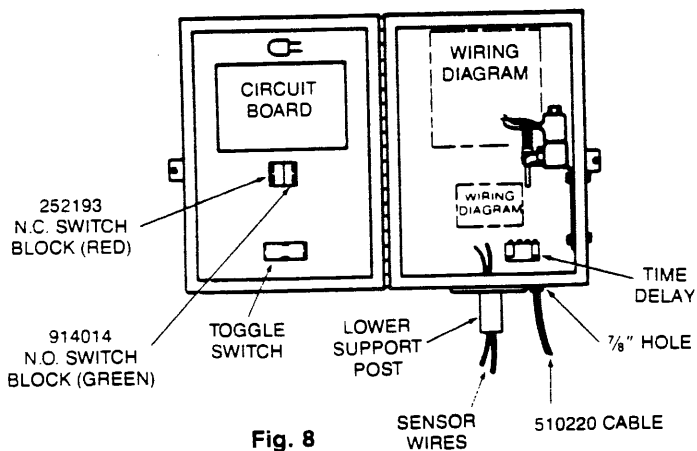

Fig. 8
- On the bottom right-hand side of the Flex-O-Matic Control Box, drill a $\frac{7}{8}$ " hole, next to the $\frac{1}{2}$ " hole drilled for tygon tubing. (See Fig. 8 for location.)
- Position and attach the N.O. green switch block (914014) to the existing switch block just below the circuit board on the inside cover of the Flex-O-matic Control Box. The switch block will snap into position when attached and can be added over existing blocks. (See Figs. 8 and 9)
- Attach the N.C. red switch block and wire assembly, included, opposite the green switch block just installed. (See Figs. 8, 9 and 9A)